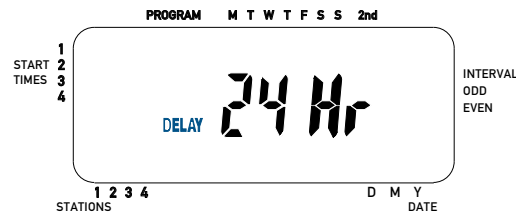

Figure 8: LCD Display with Rain Delay
2. Press the **RAIN DELAY** button to automatically delay watering for 24 hours. [See Figure 8]